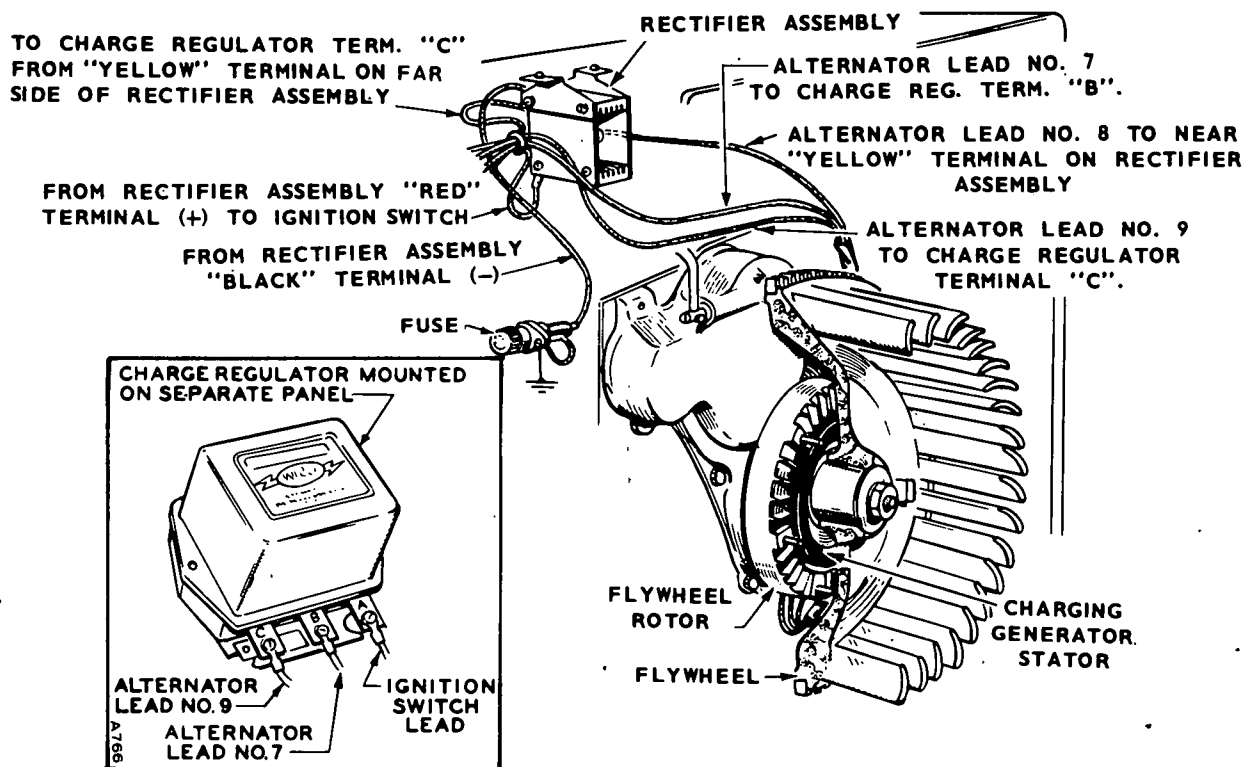

FIGURE 36. FLYWHEEL ALTERNATOR (PRIOR TO SPEC T)
There are four major components in the battery charging system: (1) a permanent magnet on the flywheel provides a rotating magnetic field; (2) a group of coils mounted behind the flywheel on the gear cover cuts the field to produce a voltage; (3) a two-step mechanical regulator controls the AC voltage to the rectifier, and (4) a full wave rectifier converts the regulated AC to DC for battery charging. See Figure 36.